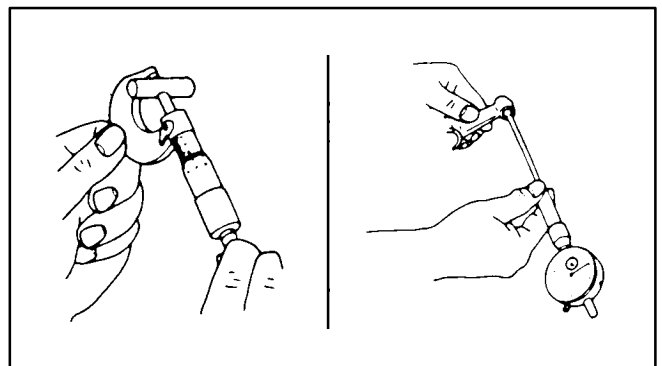

FIGURE 9-29. PISTON PIN TO CONNECTING ROD CLEARANCE
1. Measure the piston pin OD and connecting rod small end bore with a micrometer (Figure 9-29). Then calculate the difference.